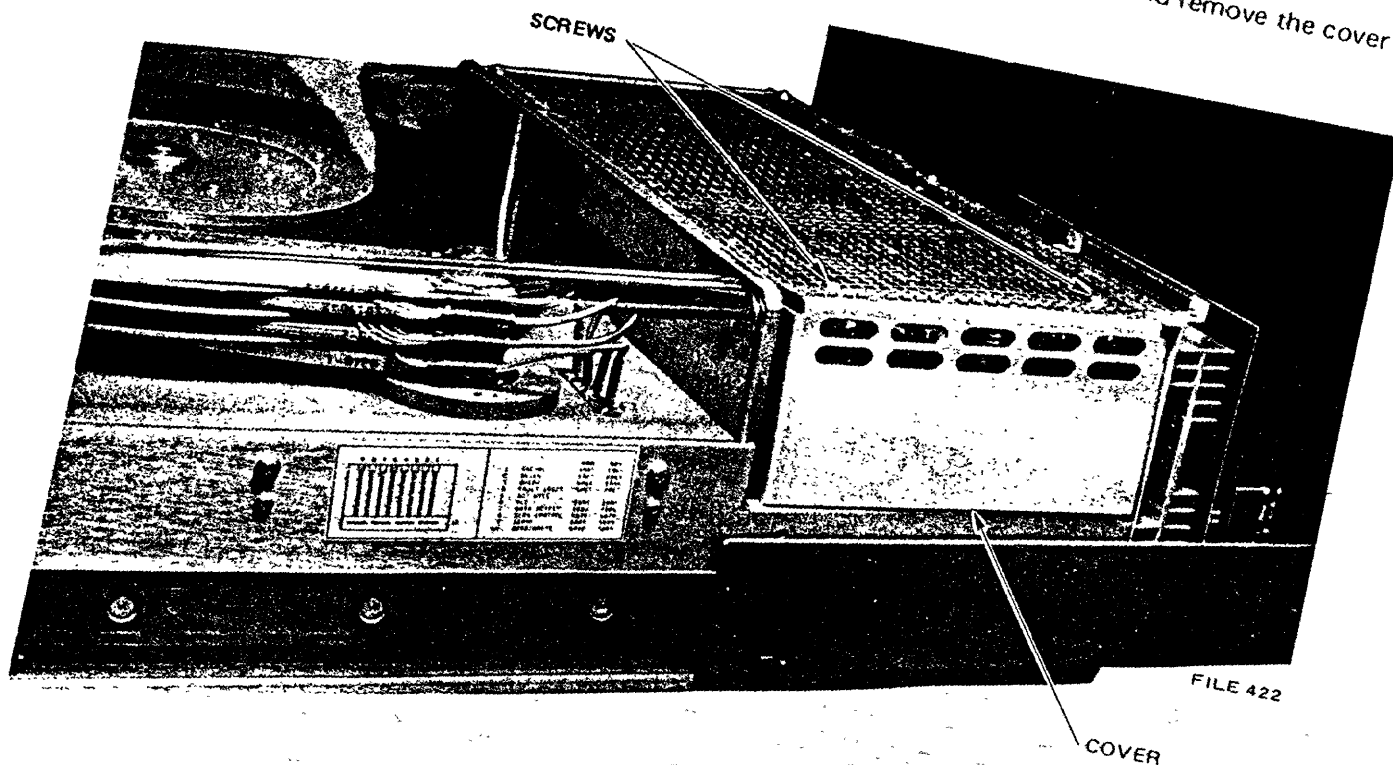

Figure 20-13. Read/Write Amplifier PCBA Access.
- Remove the two screws retaining the drive right-rear side cover and remove the cover (Figure 20-13).